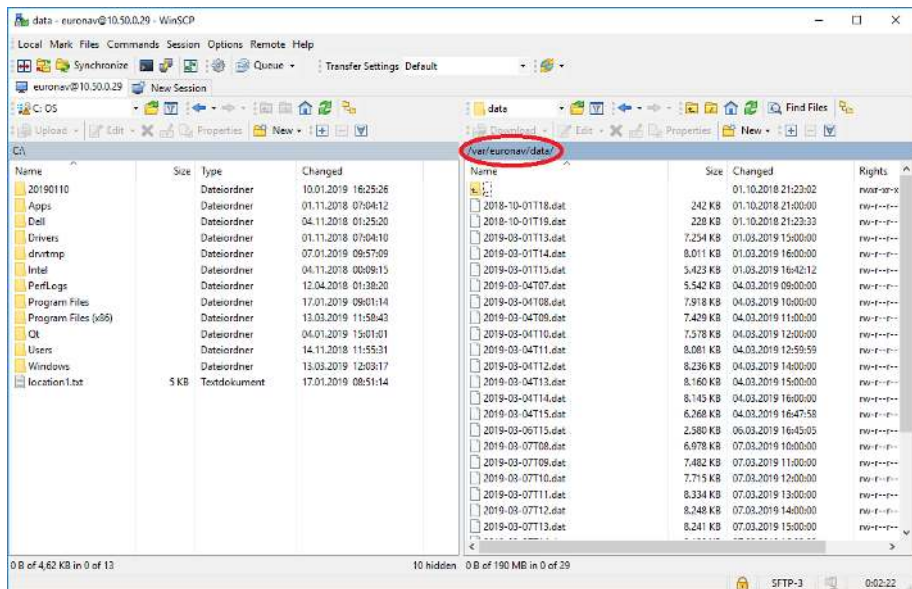

Figure 18: WinSCP data directory
3. Then navigate to the “/var/euronav/data/” directory of the A10-RTK (see Fig. 18).